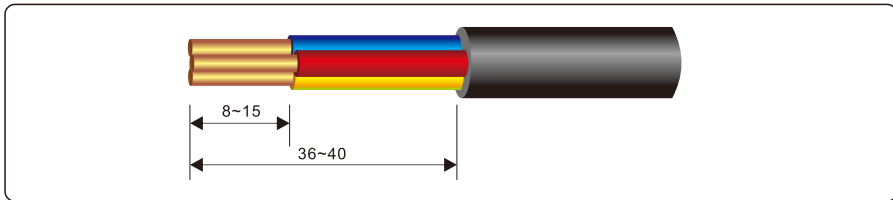

Figure 5.5 Stripped length (unit: mm)
Step 1 Remove an appropriate length of the jacket and insulation layer from the AC output cable using a wire stripper, as shown in Figure 5.5.